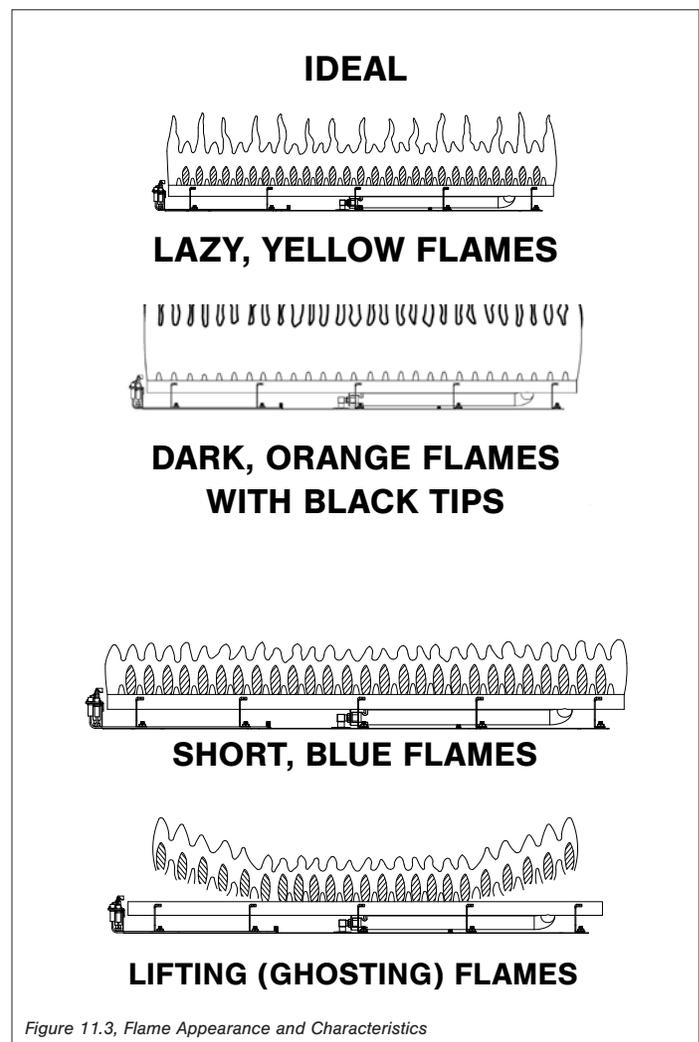

Figure 11.3, Flame Appearance and Characteristics
- Visually check pilot light and burner flame pattern when in operation. Flames should be steady, not lifting or floating. Refer to Figure 11.3, Flame Appearance and Characteristics on page 37 for more information.